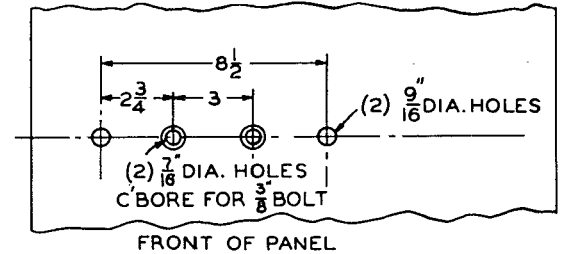

Fig. 2
- Drill two $\frac{1}{16}$ " diameter holes $8\frac{1}{2}$ " on center in mounting panel (See Fig. 2). Note: Maximum overall mounting panel thickness is 1-inch.
- Drill two $\frac{1}{16}$ " diameter holes 3" on center in Mounting panel (See Fig. 2).
- Counterbore two $\frac{1}{16}$ " holes drilled in Step 2 (B) to assure a $\frac{3}{8}$ " hex bolt head will fit flush with front of panel (See Fig. 2).